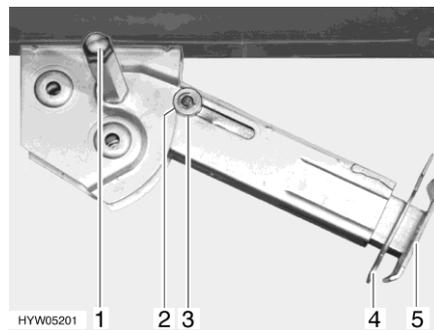

Fig. 45 Steady leg
- Place the socket spanner on the hexagon nut (Fig. 45,1) and rotate until the steady leg is in a perpendicular downward position.
- Remove the splint (Fig. 45,4) out of the support foot extension (Fig. 45,5).
- Place the socket spanner on the hexagon nut (Fig. 45,1) and rotate until the steady leg is clear of the ground.
- Push in the support foot extension (Fig. 45,5) and insert the splint (Fig. 45,4) in the drilled hole in the support foot extension.
- Rotate the hexagonal nut (Fig. 45,1) with the socket spanner until the steady leg has swung upwards and the guide disc (Fig. 45,3) has completely retracted into the notch (Fig. 45,2).